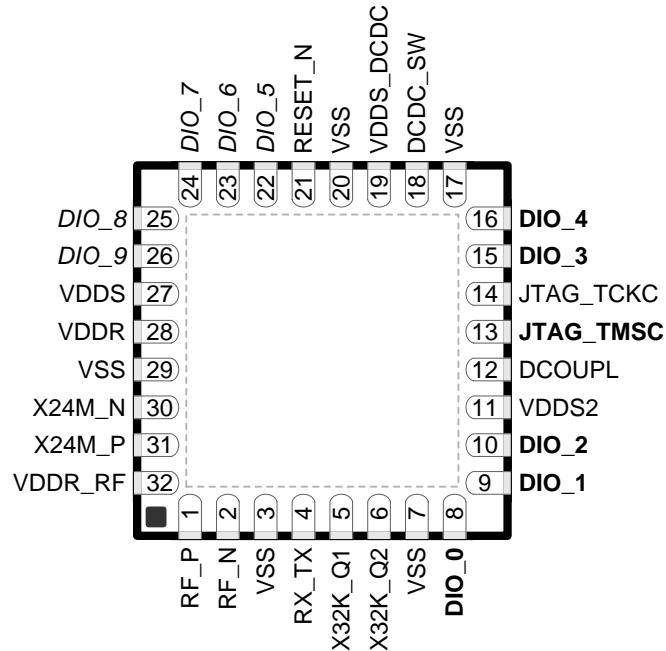

Figure 4-1. RSM (4-mm x 4-mm) Pinout, 0.4-mm Pitch
• Changed <a href="#">Figure 4-1</a> .....	<a href="#">8</a>
Figure 4-1 shows the RSM pinout diagram.
I/O pins marked in **Figure 4-1** in **bold** have high-drive capabilities; they are as follows:
I/O pins marked in **Figure 4-1** in *italics* have analog capabilities; they are as follows: